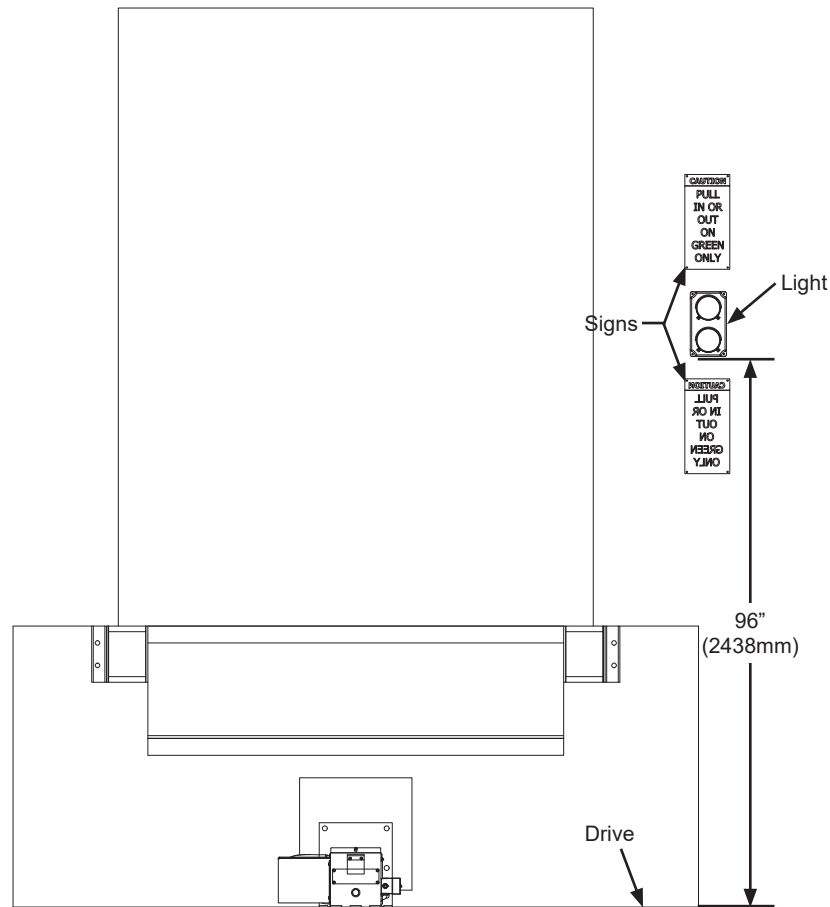

Figure 22
6. Install Outside Light Assembly and signs (see Figure 22).
Note: Installation measurements shown in Figure 22 are recommended based on typical dock conditions. Some installations may require alternate placement.
1. Mount the Outside Light Assembly (**B**) so bottom of outside light-to-drive distance (**C**) is 96 in. (2438 mm). See Figure 22.